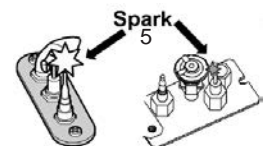

Fig 3
2. **TO CLEAR ANY GAS**, turn main valve off by pressing the (⏻) button on remote handset (1). Wait five (5) minutes to clear out any gas, then smell for gas, including near the floor. If you smell gas, **STOP!** follow "B" in the safety information above on this label. If you don't smell gas, go to the next step.
3. **AUTOMATIC IGNITION:** MAN-knob (2) in ON position. Ensure Flame Adjustment knob (3) is set to lowest setting (Fig. 1). Locate the pilot (Fig. 3.) inside the firebox.
- On the remote control handset, press the (⏻) button; a short acoustic signal confirms the start has begun. Further short acoustic signals indicate the ignition process is in progress. When the pilot is lit, the Flame Adjustment knob (3) will automatically rotate to the highest setting. Press the (⏻) button on the remote control handset to reduce the flame height.
- With the window off, locate the pilot (Fig. 3) inside the firebox. Set Flame Adjustment knob (3) to the lowest setting. Push down the metallic core (4) with a pen or similar instrument; this will establish the pilot gas flow. Light gas at the pilot (5) with a match. Continue holding down metal core (4) for about 10 seconds; after release, pilot should remain lit. If the pilot will not stay lit after several tries, turn the gas control knob (3) to OFF and call your local service technician or gas supplier. Reinstall the window and set the MAN-knob (2) to ON; turn Flame Adjustment knob (3) up or down manually or use the (▲) and (▼) buttons on the remote control handset to adjust the flame height.